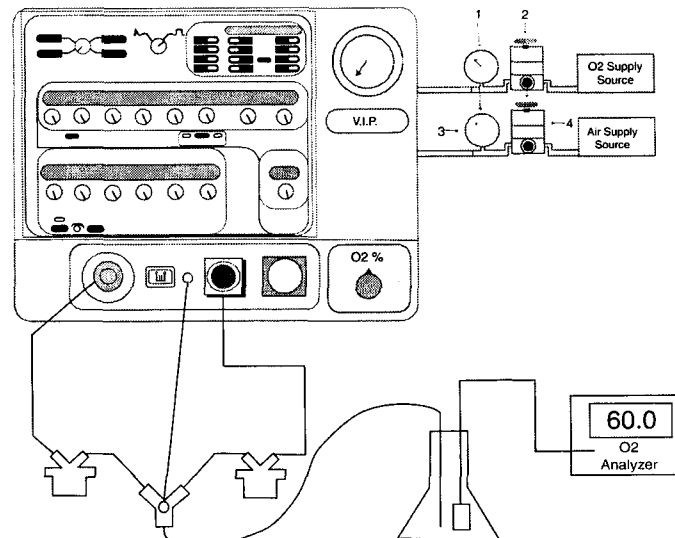

Figure 2.3
- Remove the test lung from the P/N10383 test circuit. Connect the patient circuit (the wye) to oxygen sampling hose. Put other end of sampling hose into a sampling container. Connect your Oxygen analyzer to the sampling container (See test figure 2.3). Your Oxygen analyzer should be calibrated to manufacture specification.